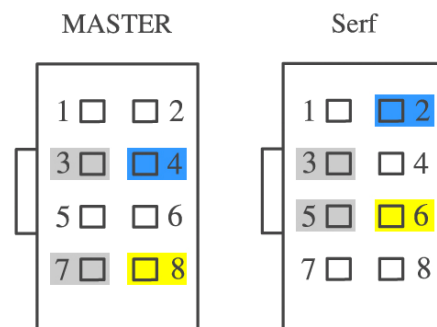

Figure 3. Schematic of Internal Timing Cable.
- 2) Connect the Master end of the timing cable to the Master potentiostat and the Serf end of the timing cable to the Serf potentiostat on connector J400. If the cable is not labeled consult Figure 3 to determine which end is the Master.